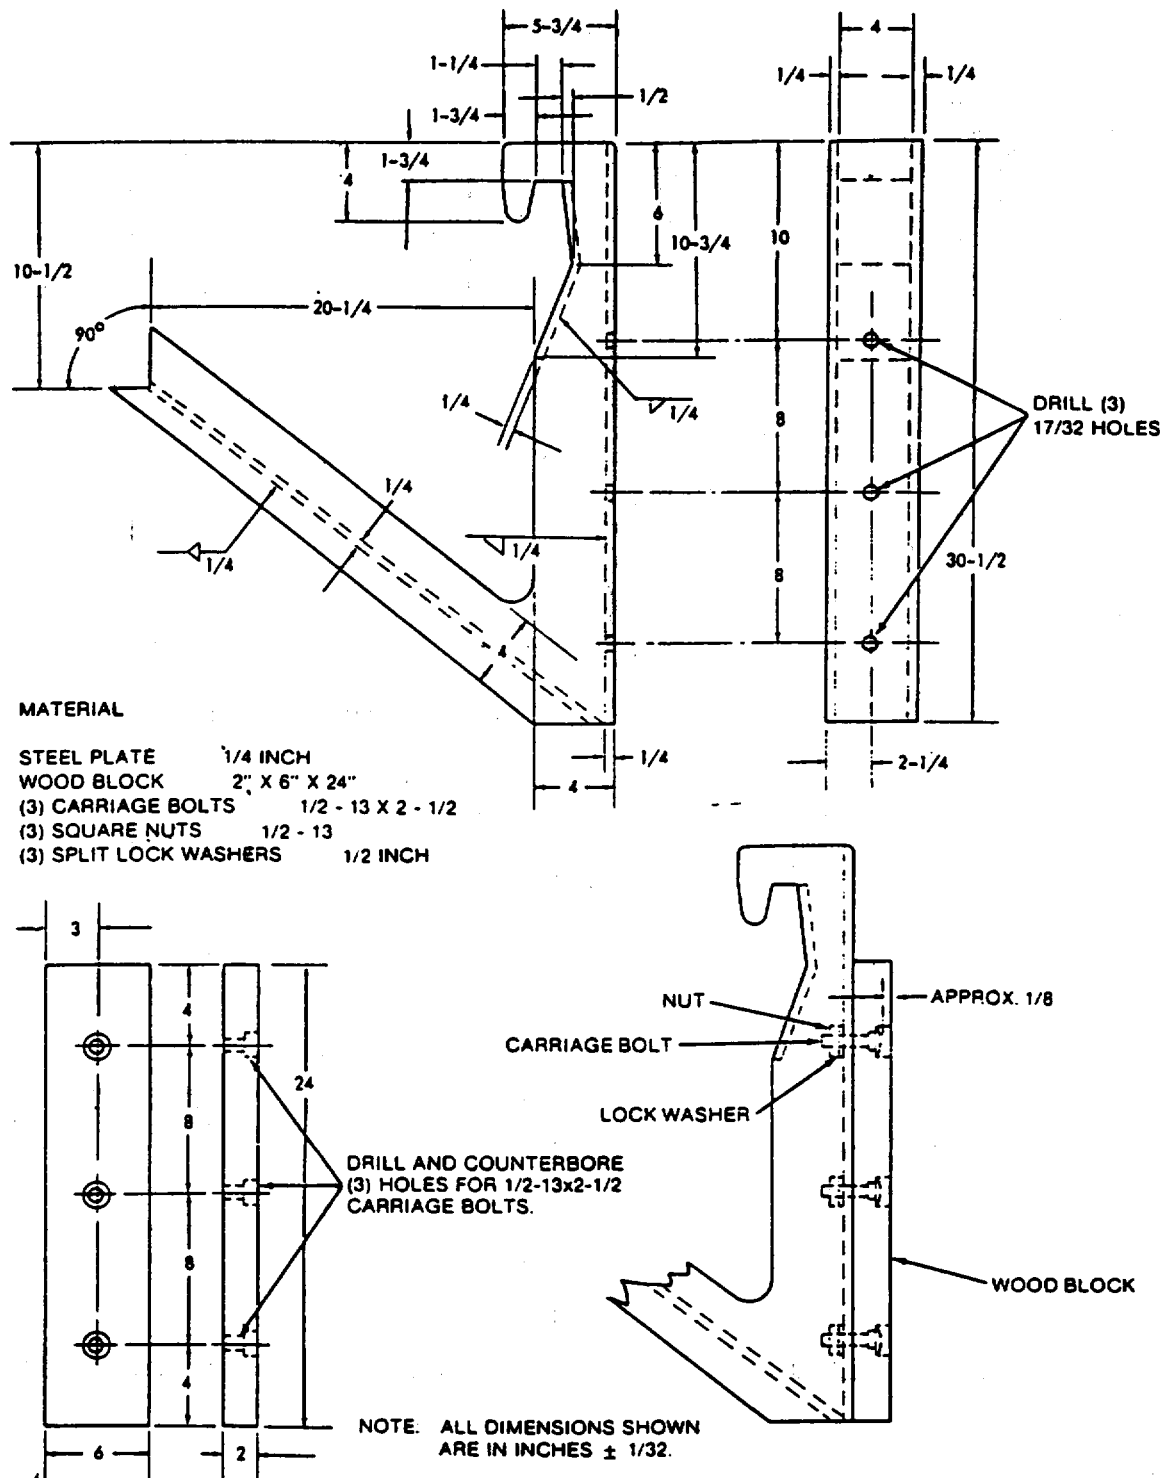

Figure 2-1. Dimensional Drawing for Fabricating Improved Recoil Mechanism Exercising Bracket (M62 Wrecker)
e. Wrecker M62, M543A2, M816, M977, or M98E1 HEMTT and Improvised Exercising Bracket. When exercising a number of combat vehicle recoil mechanisms, an improvised exercising bracket (figures 2-1, 2-2, and 2-3) can be fabricated to save time and effort. With this exercising device, any number of combat vehicles (tables 2-1 and 2-2) can be exercised by using the wrecker boom (figures 2-3 and 2-4) and exercise recoil mechanism as outlined below.